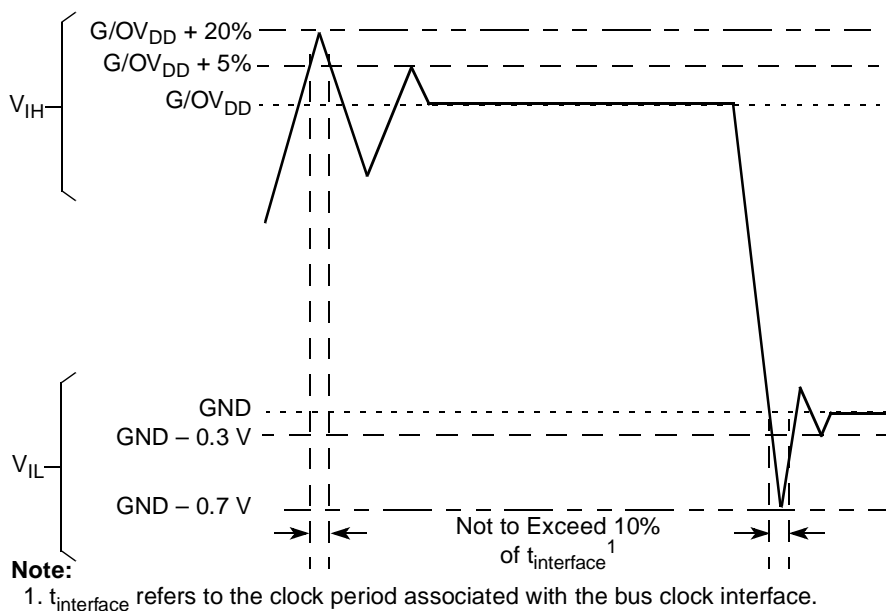

Figure 2. Overshoot/Undershoot Voltage for GV_{DD}/OV_{DD}
- (M,O) V_{IN} and MV_{REF} may overshoot/undershoot to a voltage and for a maximum duration as shown in Figure 2.
Figure 2 shows the undershoot and overshoot voltages at the interfaces of the MPC8323E.